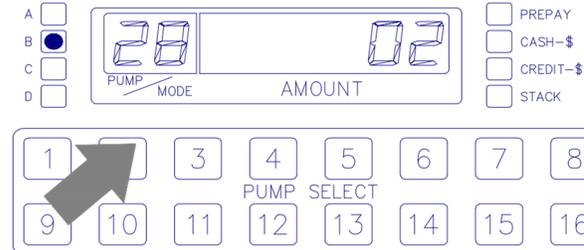

Figure 7
Figure 7 illustrates the display window just before the CHNG button is pressed when programming fueling position 2, product hose B to tank 2. The MODE is 28, and the second hose (B) dispenses grade 2.